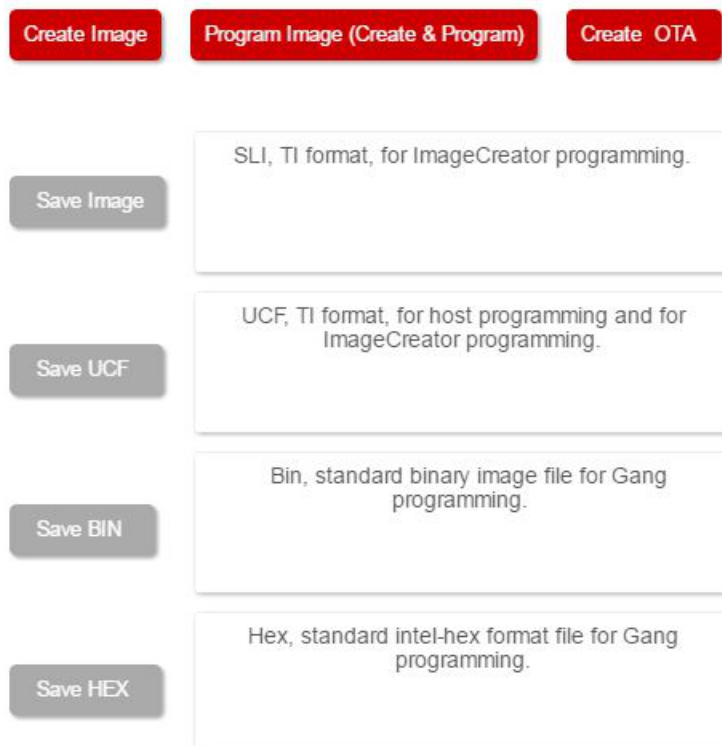

Figure 3-15. Generate Image
10. Click on Program Image (Create & Program), as shown in Figure 3-15. This step might take a minute.